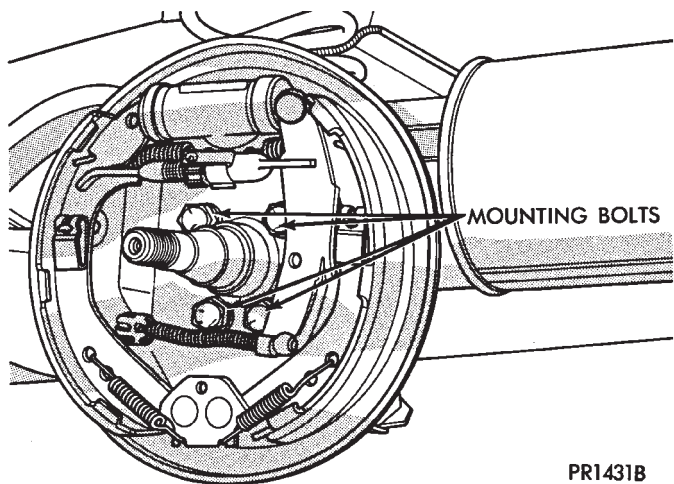

Fig. 3 Loosen Mounting Bolts
axle casting. Each shim equals wheel change by .3°, as shown in figures 3 through 6. These shims are to be used on two wheel drive vehicles only.
- (9) Loosen four (4) brake assembly and spindle mounting bolts enough to allow clearance for shim installation (Fig. 3). **Do not remove mounting bolts.**